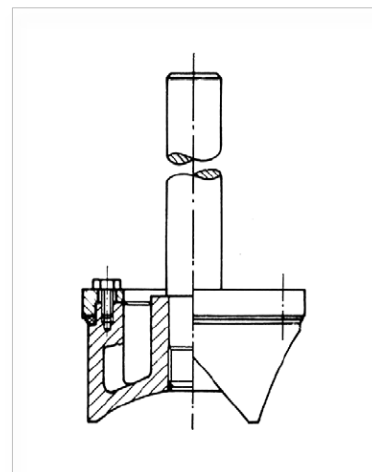

Figure 6: Soft seat plug
2. Loosen the screws and remove clamp ring (Figure 6).